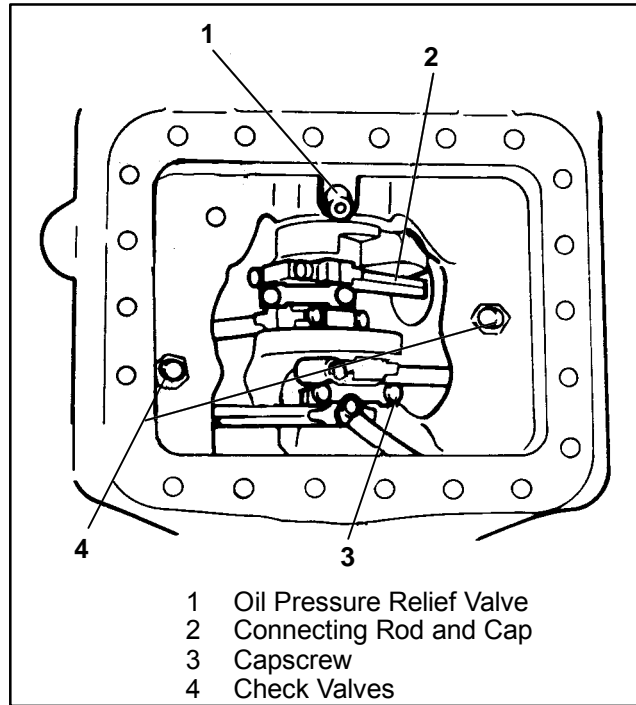

Figure 3-11. Bottom Plate and Oil Strainer Removed
be installed during compressor reassembly. (See Figure 3-11)
- Remove and check operation of oil return check valves (See Figure 3-11). The check valves are free floating devices and can easily be checked visually.
- Remove and check oil pressure relief valve (See Figure 3-11). The oil pressure relief valve is a spring loaded device which can be checked by using a small piece of stiff wire to ensure that the spring can be depressed.
- c. Check operation and reinstall check valves and relief valve. (See Figure 3-11). The check valves are free-floating devices and can easily be checked visually. The relief valve is a spring-loaded device which can